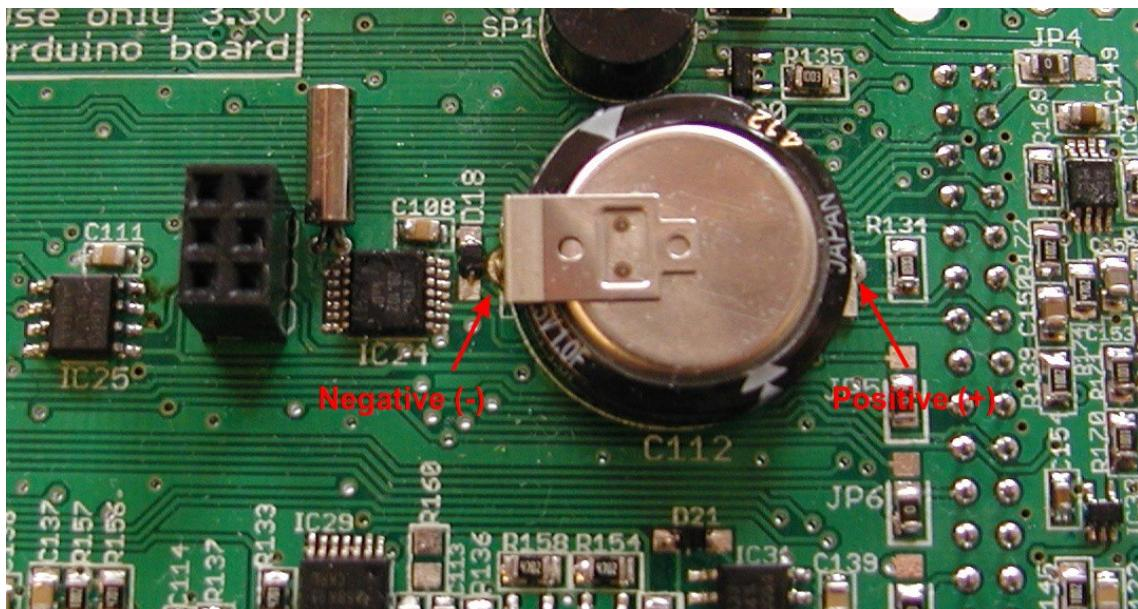

Fig. 5: Supercap for RTC backup placement
- The super capacitor is polarized as elco capacitors or battery cell. Check its terminals polarity twice before mounting! (see Fig. 5)